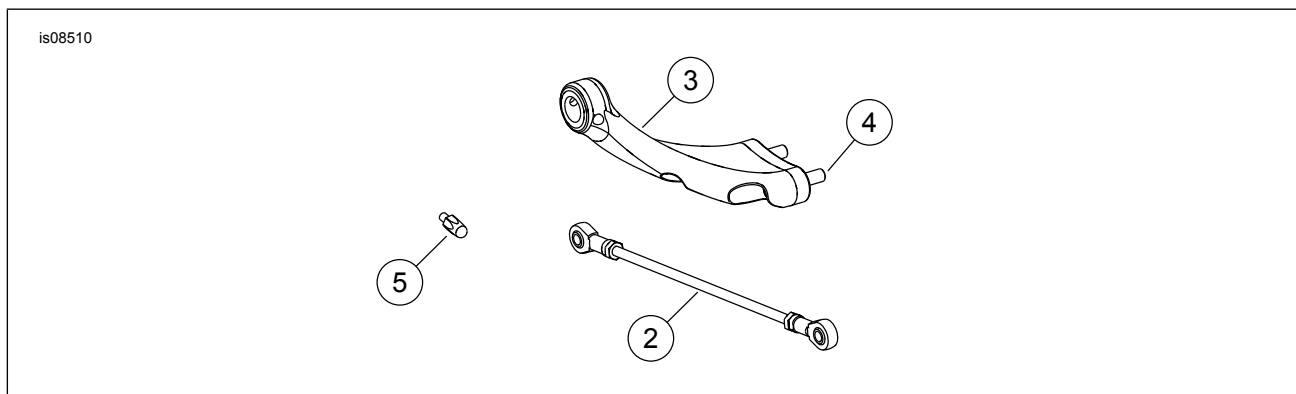
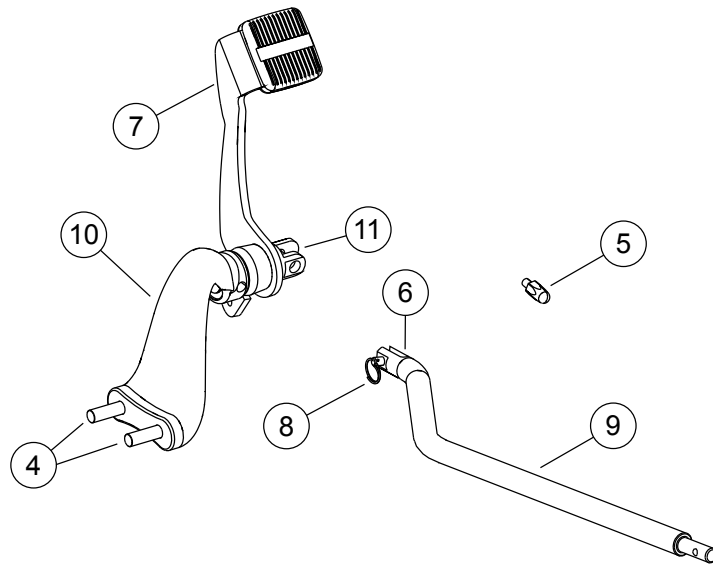

Figure 2. Service Parts: Forward Control Left (Shift) Side
Figure 3. Service Parts: Forward Control Right (Brake) Side
See Figure 2, Figure 3 and Table 2.
1. See Figure 3. Obtain new support bracket (10) and new brake pedal assembly (7) from kit.
2. Slide the brake pedal (7) onto footrest mount clevis (11). Slide clevis into support bracket. Align hole in the clevis with hole in support bracket. Install original screw. Tighten the screw to 17.6–23 N·m (13–17 ft-lbs).
4. Obtain the two new support screws (4) from kit.
8. See Figure 2. Obtain the saved footpeg, spring washer, footpeg clevis pin and footpeg clevis retaining ring from kit.
1. See Figure 2. Mount support bracket (3) to frame using screws (4). Tighten to 61.1–67.9 N·m (45–50 ft-lbs).
4. Thread screw in far end of the shift rod (2) and into shifter arm. Tighten to 13.6–20.3 N·m (10–15 ft-lbs).
5. Thread screw in opposite end of shift rod (2) on the inboard side of the shift pedal. Tighten to 13.6–20.3 N·m (10–15 ft-lbs).
7. See Figure 3. Obtain the saved footpeg, spring washer, footpeg clevis pin and footpeg clevis retaining ring from kit.